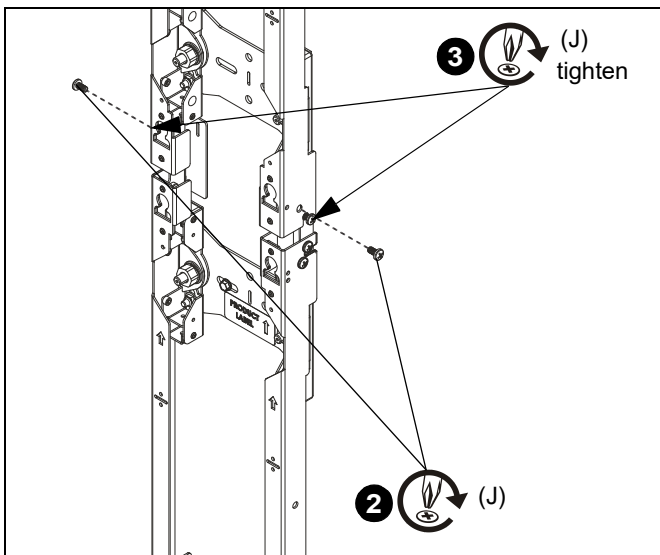

Figure 13
2. Install remaining 1/4-20 x 1/2" Phillips pan machine screws (J) into hole above partially installed screws. (See Figure 13)
3. Tighten partially installed screw (J) to secure additional upright to existing upright. (See Figure 13)